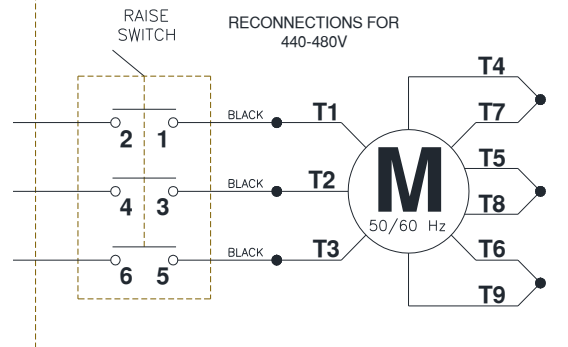

Fig 17 – Electrical Wiring Diagram
See Figure 17 for the following steps.
- 33) Connect the Overhead Limit Switch Cord to Power Unit as shown in **Fig. 17**.
- 34) Connect Power Unit to suitable electrical source as shown in **Fig. 17**.